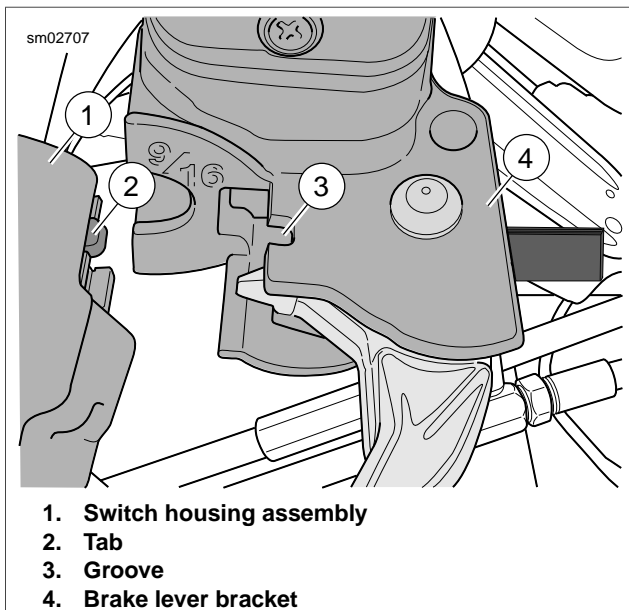

Figure 2-65. Attach Master Cylinder to Right Handlebar Switches
12. See Figure 2-65. Position the brake lever/master cylinder assembly inboard of the switch housing assembly engaging the tab (2) on the lower switch housing (1) in the groove (3) at the top of the brake lever bracket (4).